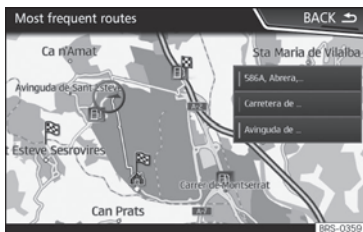

Fig. 207 Predictive navigation
- On the main screen of the Navigation menu, in the pop-up window, press the **Frequent routes** button. To display frequently followed routes press the **Show on map** button » **Fig. 207**.